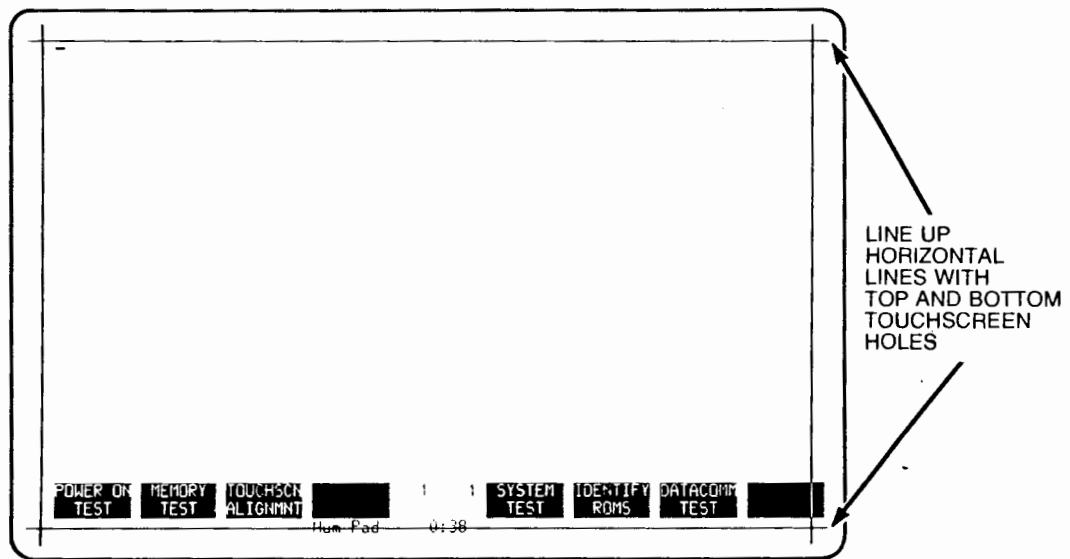

Figure 5-3. Vertical Display Alignment
6. Using the alignment tool to turn the VERT. CENTER adjustment at the rear of the unit, center the display vertically on the screen. Do this by lining up the top and bottom horizontal grid lines with the top and bottom Touchscreen holes (see figure 5-3).